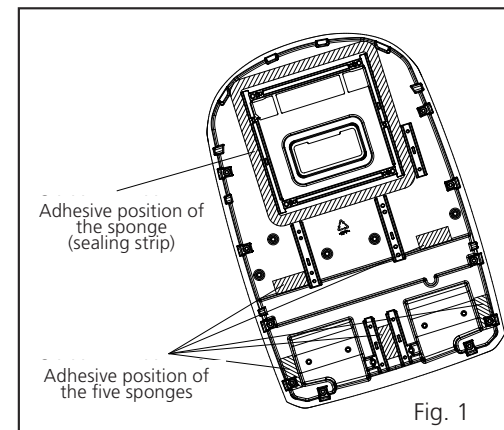

Fig. 1
- Before sticking, remove any foreign matter from the adhesive area (see Figure 1) of the outdoor unit housing to ensure that the adhesive area is clean.
- Take one piece of sponge (sealing strip) and five pieces of sponge from the accessories, tear off the paper on the adhesive surface, and align it with the edge of the position as shown in Figure 1 to attach the sponge. If the sponge (sealing strip) is damaged or does not stick in the correct place, replace it with a new one and stick it on properly.